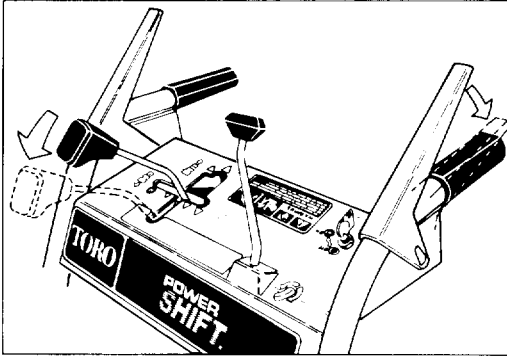

Figure 14
2. To move wheels to front or rear position, move shift control fully forward to Power Shift position and hold (Fig. 14).
3. Fully engage traction drive lever to move wheels into Power Shift position (Figs. 14 & 15).